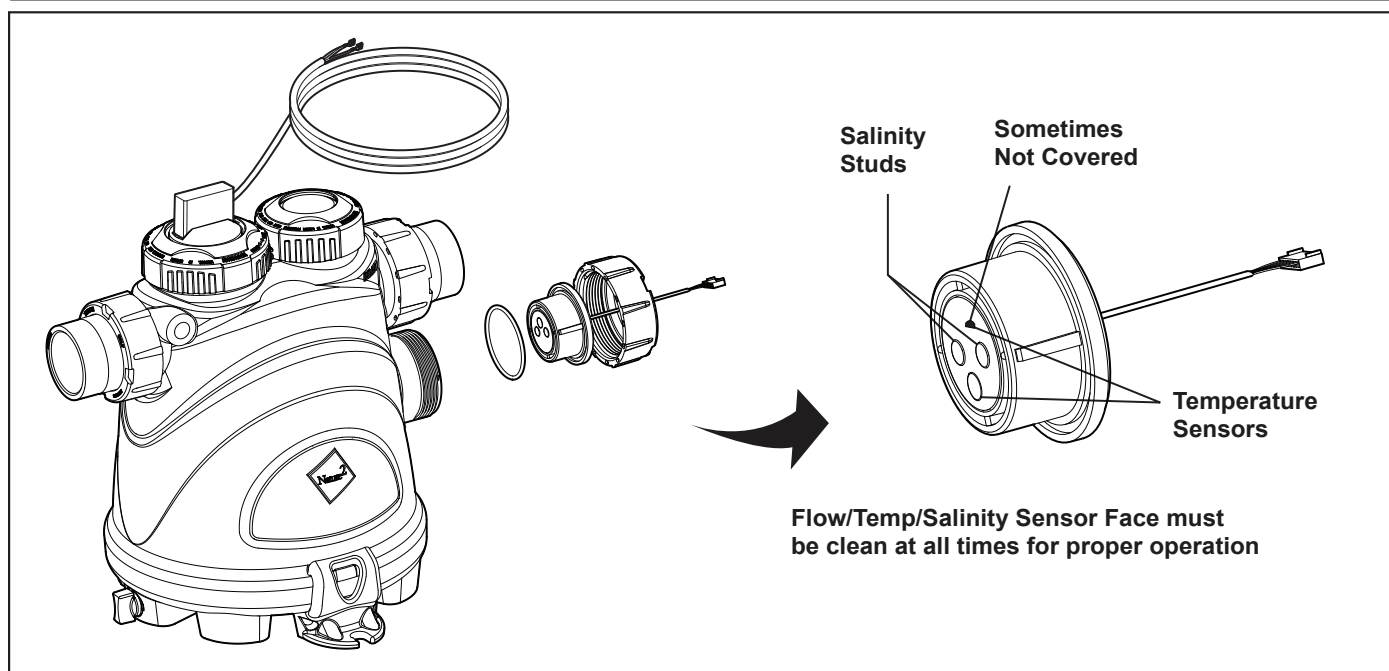

Figure 10. Vessel Installation and Flow/Temp/Salinity Sensor
- Mount as shown in Figure 10. This will result in the most reliable operation.
2. Install the flow/temp/salinity sensor into the vessel (see Figure 10).